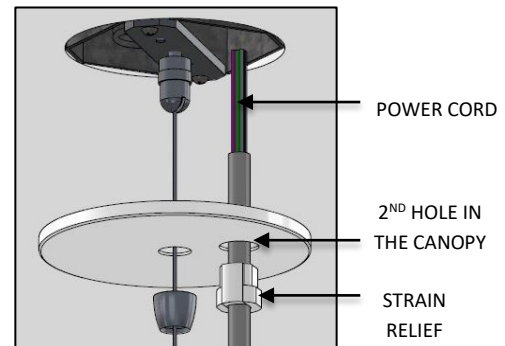

FIG. 34 – CORD INSTALLATION
16. Feed POWER CORD through the 2ND IN THE CANOPY and secure at desired length by using the STRAIN RELIEF provided as shown below in FIG. 34.